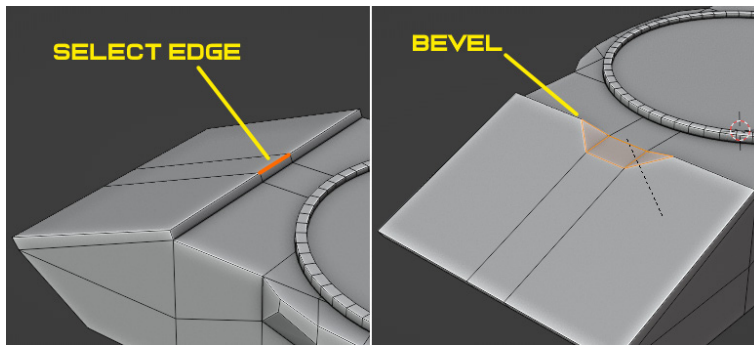

Figure 8.3 – The middle edge (left) and a beveled shape (right)
3. Select the top-middle edge on the top plate and bevel it. It should produce a shape as shown in *Figure 8.3* (right).